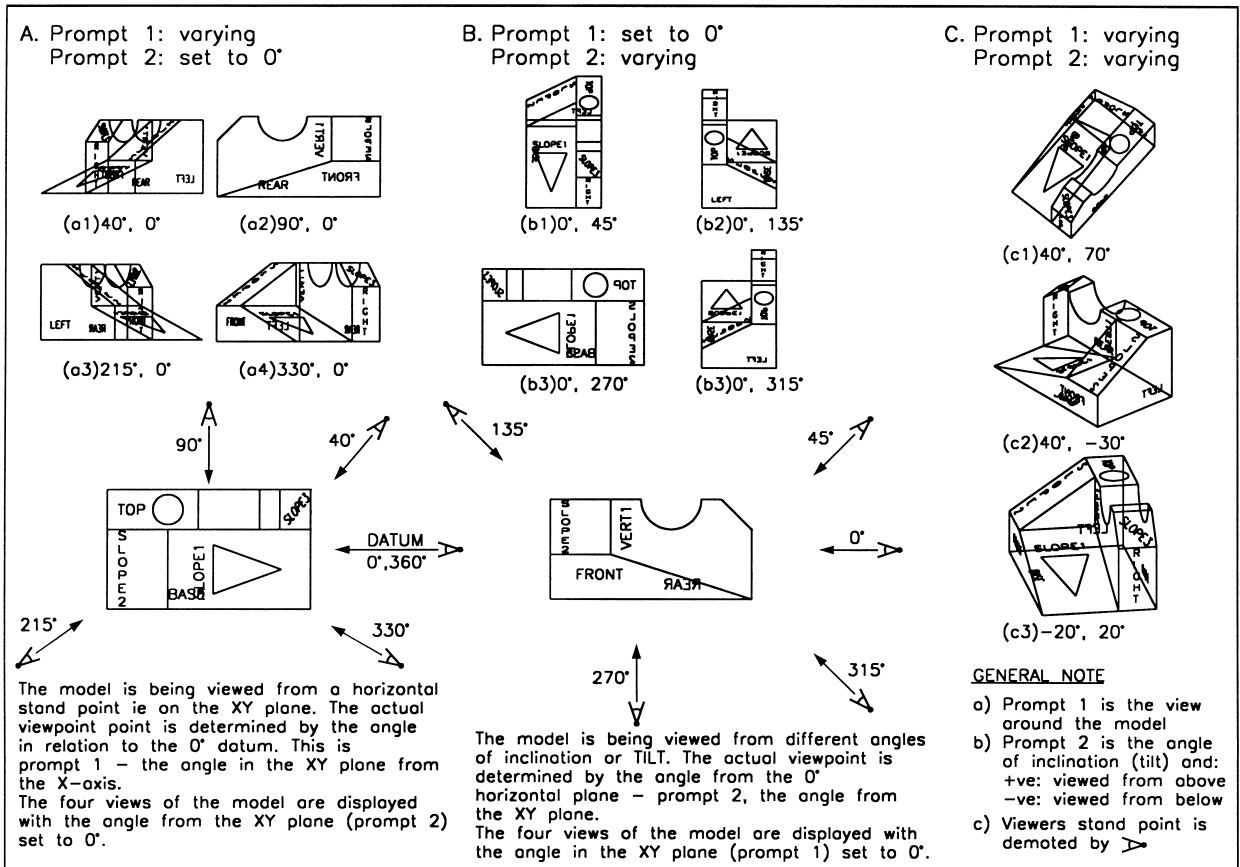

Figure 10.1 3D Views – the VPOINT ROTATE option with 3DWF.
- 3 Refer to Fig. 10.1 section A
- 7 Restore the original SE Isometric viewpoint and refer to Fig. 10.1 section B
- 9 Restore the SE Isometric viewpoint and refer to Fig. 10.1 section C. Activate the VPOINT-Rotate command and enter the following angles:
The reader must realise that the displays in Fig. 10.1 have been 'scaled' to fit the one sheet, and that your model displays will be larger than those illustrated.